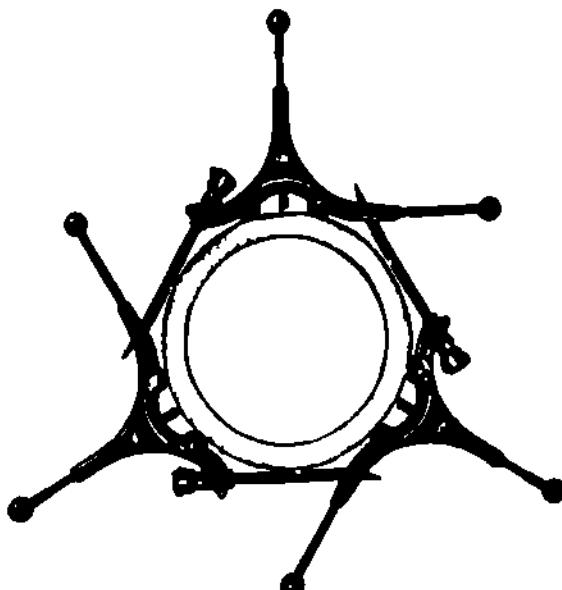

Figure 1-72. NPS 250 mm to NPS 400 mm Pipe Cutter
- b) Figures 1-72 and 1-73 show two types of cutters made for this purpose. These have carbide-tipped cutting blades and do not leave rough or snapped ends.